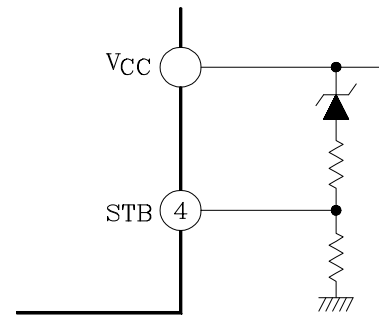

Fig.7
When the stand-by terminal was put to the low level after the ripple rapid discharging circuit was operated ( $V_{CC} \doteq 7V$ ) at the time when  $V_{CC}$  was turned OFF, a pop noise may be generated. Therefore,  $V_{CC}$  which makes the Stand-by terminal low shall be set at 8V or above so that (1) the Stand-by terminal is put at the low level and (2) the ripple rapid discharging circuit is turned ON when  $V_{CC}$  is turned OFF (in order of (1) and (2)). An example of application is shown in (Fig. 7).